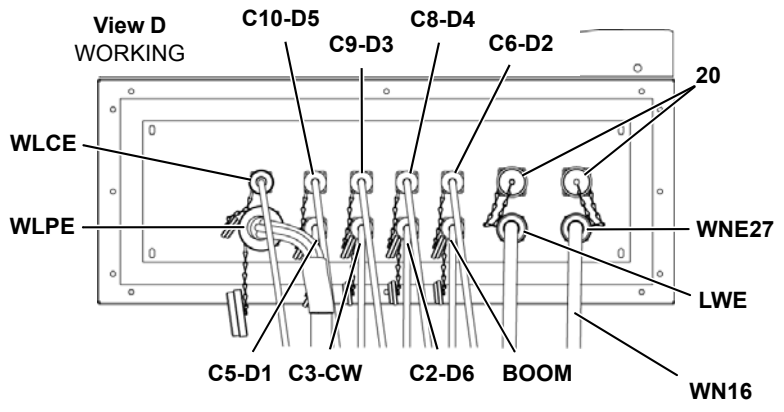

FIGURE 5-90
2. Disconnect the hydraulic hoses between the power plant enclosure, the drums, and the rotating bed as shown in Figure 5-90, Views A and B.
3. Disconnect the electric cables between the power plant enclosure, the rotating bed, and the front roller carrier as shown in Figure 5-90, Views C and D.